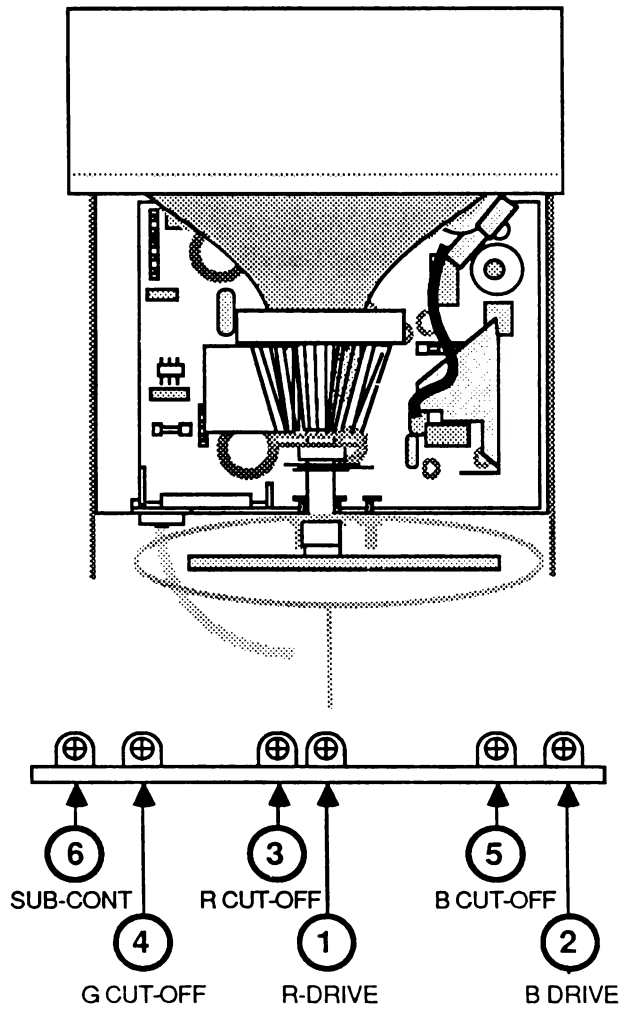

FIGURE 6
- R-CUT-OFF (red) - Figure 6, #3 (bias control)
- G-CUT-OFF (green) - Figure 6, #4 (bias control)
- B-CUT-OFF (blue) - Figure 6, #5 (bias control)
- R-DRIVE (red) - Figure 6, #1
- B-DRIVE (blue) - Figure 6, #2
- SUB-CONT (subcontrast) - Figure 6, #6